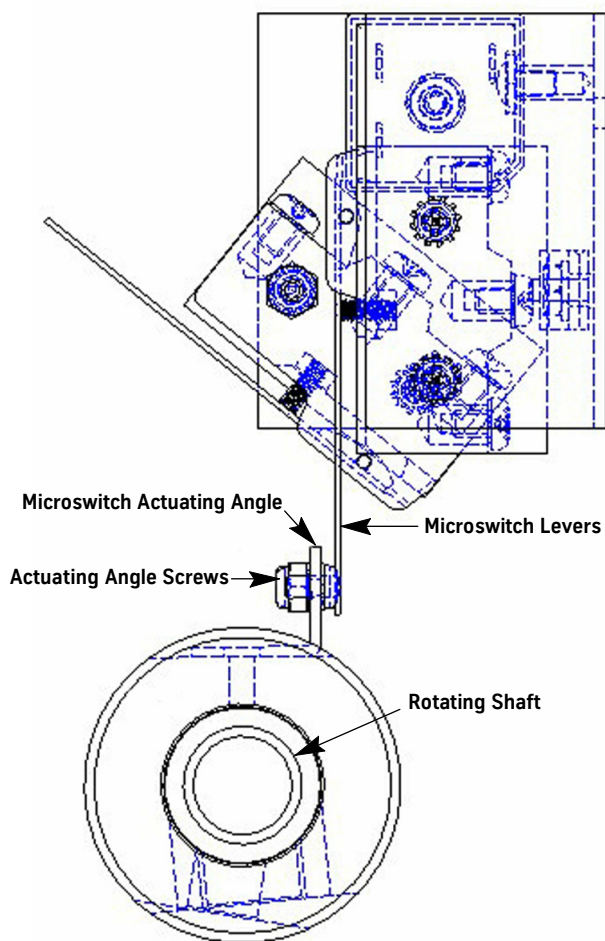

Figure 10 - Actuating Angle
7. To make the pump run longer, adjust the screw outwards in one-quarter (1/4) turn increments. See Figure 10.